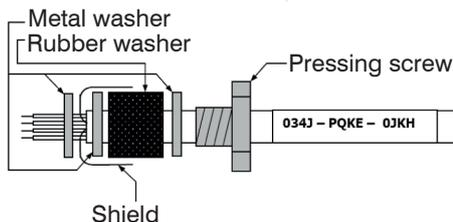

Fig. 8 Cable assembling
- ➡ Place the pressing screw, the rubber washer and the metal washers of the cable gland one after the other onto the prepared cable end, see Fig. 8.